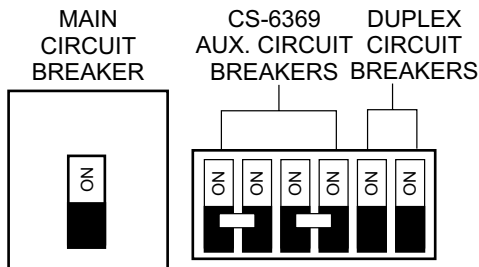

Figure 51. Main, Aux. and Duplex Circuit Breakers (ON)
13. Place the **Main, Aux. and Duplex** circuit breakers in the **ON** position (Figure 51).